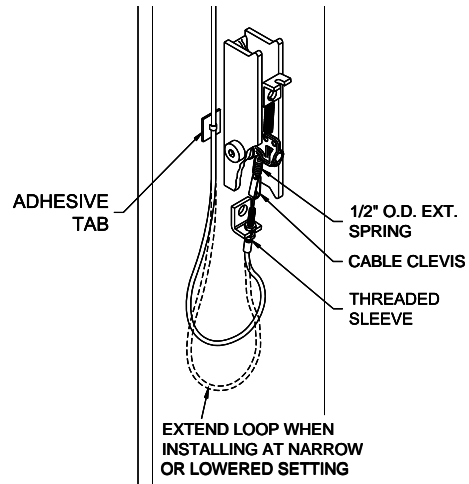

Fig 11 – Idler Column Lock Assembly
- 31) Attach Adhesive-Backed Tab to Idler Column left of the lock assembly (**Fig 11**). Route Lock Release Cable down left side of Idler Column and secure with loosely fit wire tie to Adhesive-Backed Tab. Attach Cable clevis to $\frac{1}{2}$ " O.D. Extension Spring.
- 32) Insert threaded sleeve portion of cable assembly in slot located on tab below lock pawl, **Fig 11**. With one jam nut located on each side of tab, adjust the threaded sleeve to begin to pull tension on the $\frac{1}{2}$ " O.D. spring. Snug jam nuts by hand.